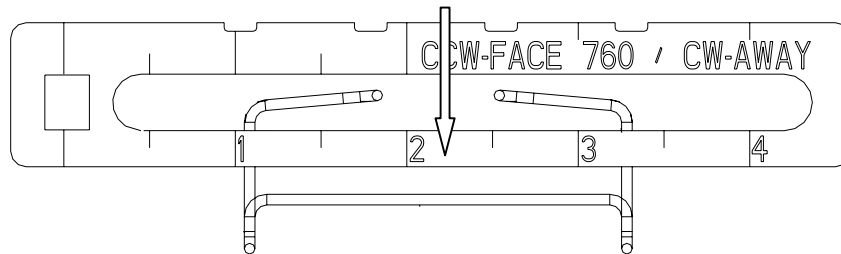

FIGURE 2 Pressing the Feedback Lever into the Retaining Clip
2. Orient the feedback lever (text side facing you) and retaining clip as shown in Figure 2. Align the clip with the lever as shown in the selected row in Table 2. (Example: the clip location for a valve travel of 3.07" is shown in Figures 2 and 3.)